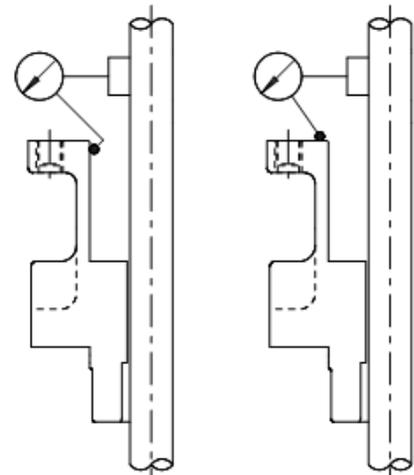

Figure 8.28
- 8.8.10.1 Once the rotating element has been set, install a dial indicator on the pump shaft as shown in Figure 8.28 and check the seal chamber face runout and bore concentricity by turning the rotating element by hand.